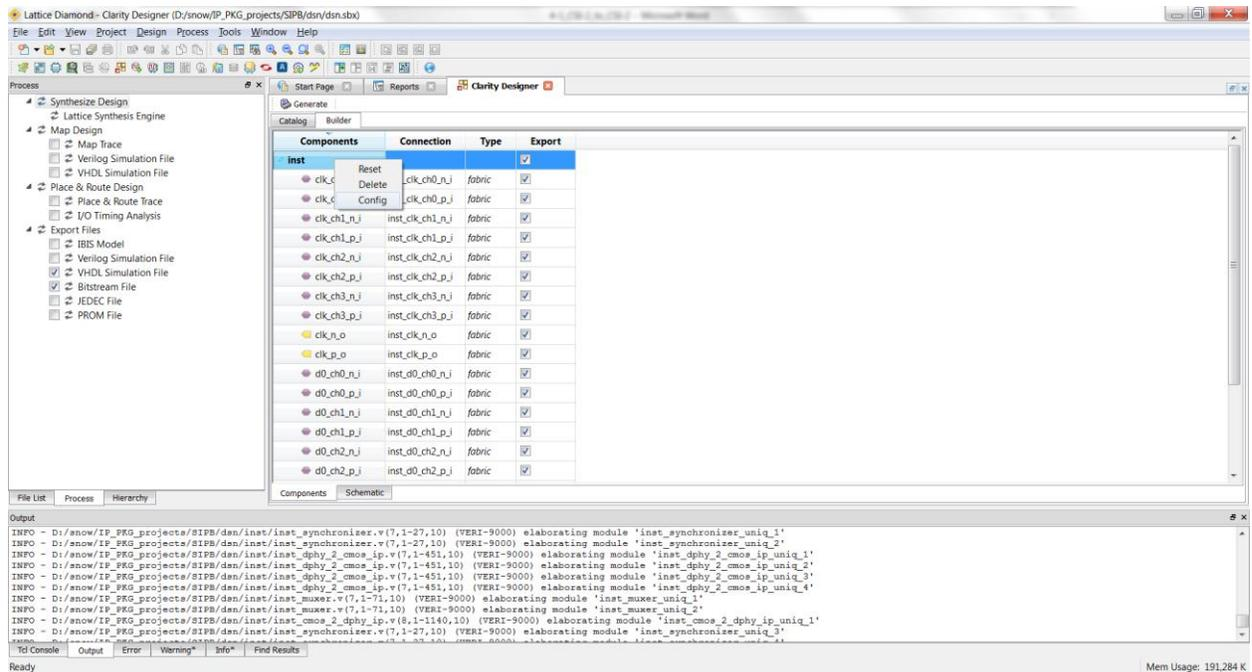

Figure 4.12. Regenerating IP in Clarity Designer
1. In the **Builder** or **Planner** tab, right-click the IP instance to be regenerated and select **Config** in the menu as shown in Figure 4.12.